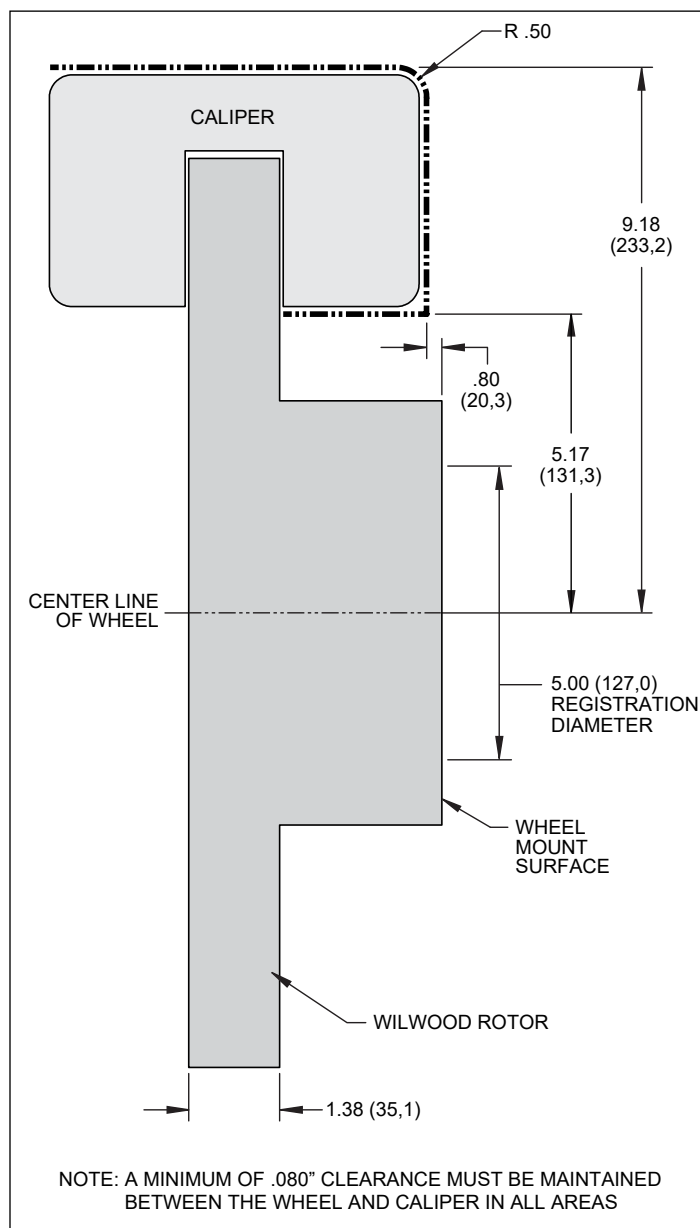

Figure 2. Wheel Clearance Diagram
- Review the Wheel Clearance Diagram (Figure 2, page 3) to verify that there is adequate clearance with the wheels you will be using with the installation.
Verify your wheel clearance using Figure 2.